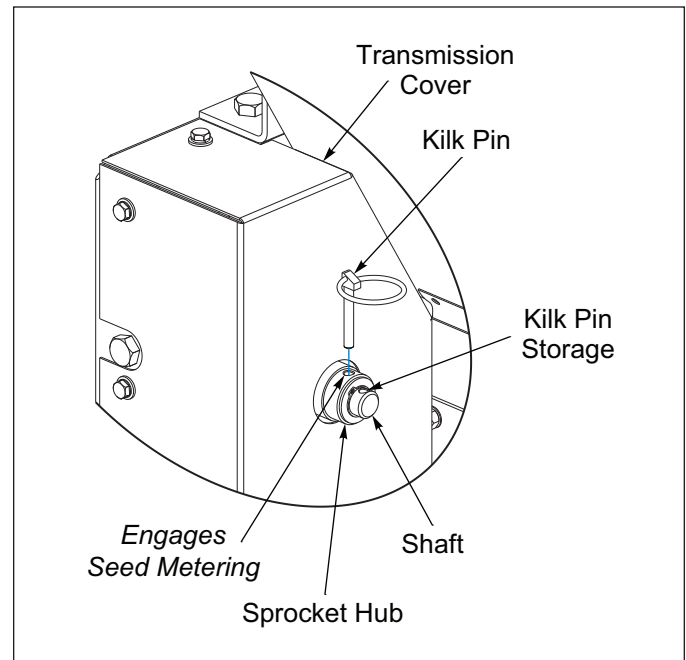

Figure 3-11: Disengage/Engage Seed Metering System Drive
1. Disengage the seed metering system drive by removing the exposed Klik Pin in the Sprocket Hub at the rear of the Seeder and placing it in the end of the shaft for storage. **See Figure 3-11.**
1. Disengage the Seed Metering System Drive by removing the exposed Klik Pin in the Sprocket Hub at the rear of the Seeder and placing it in the end of the shaft for storage. **See Figure 3-11.**